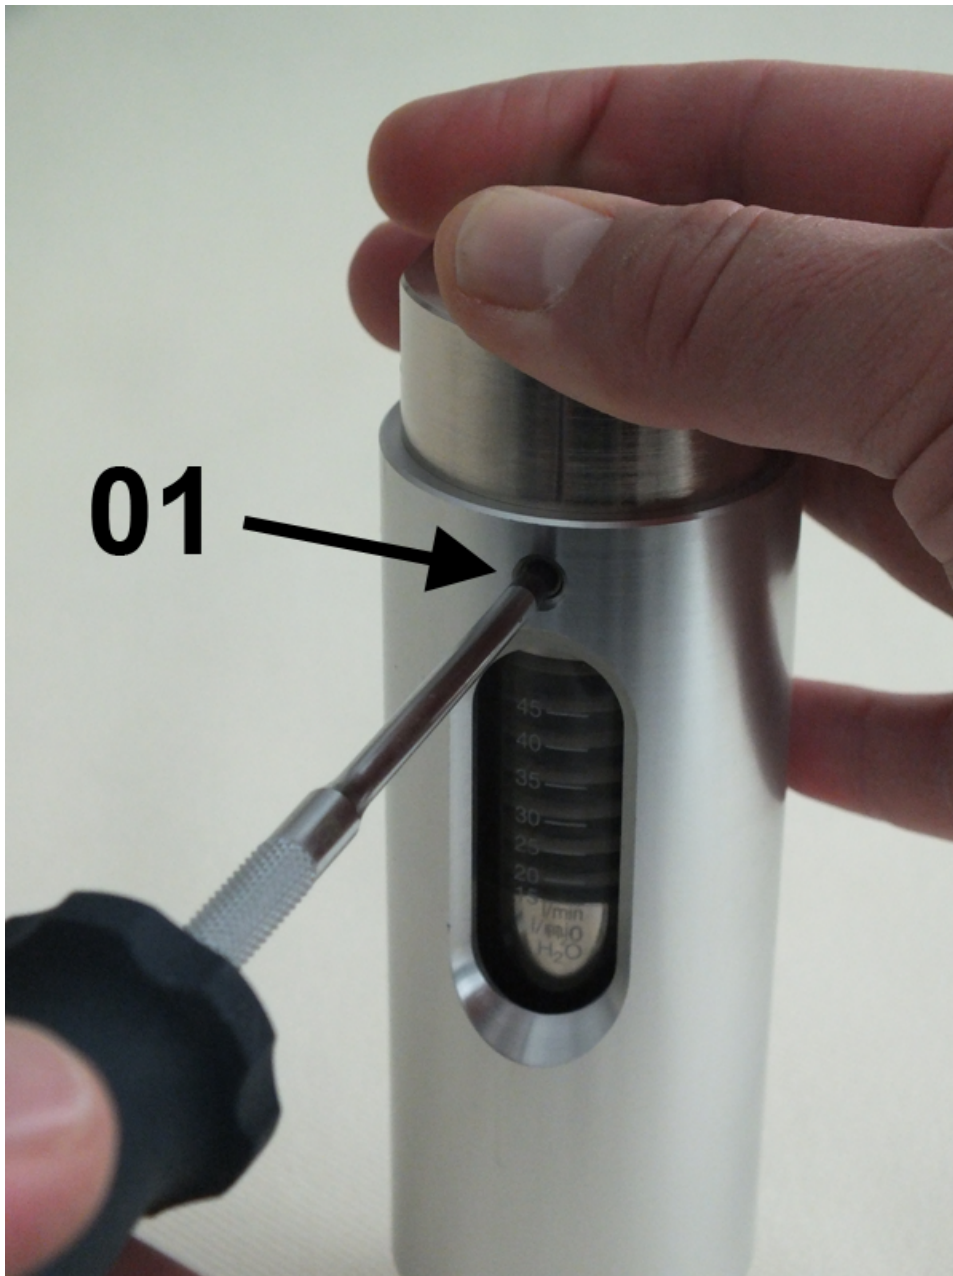

Fig. 57: Tighten hex socket screws
- 14.** Tighten the 3 hex head screws (Fig. 57/1), observing the proper torque (→ Chapter 11.1 "Tightening torque" on page 89).